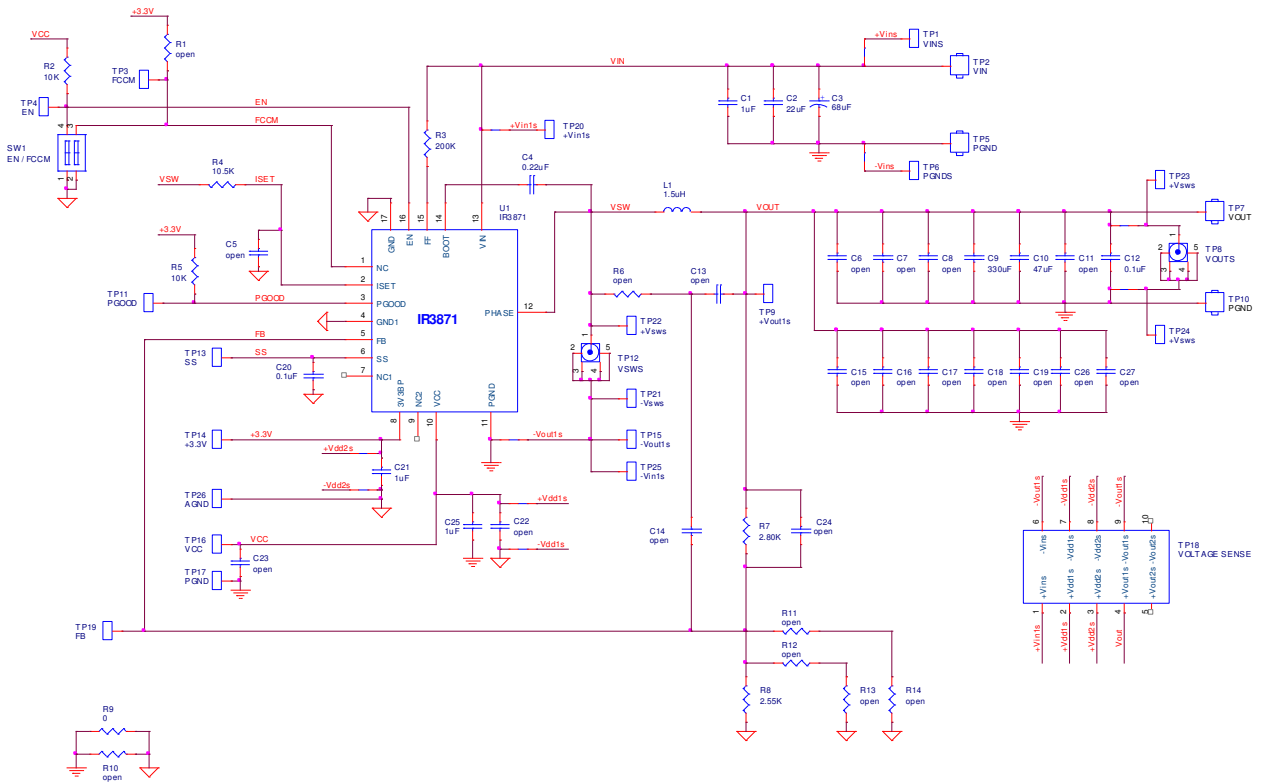

Figure 7. Typical Application Circuit for  $V_{OUT} = 1.05V$ ,  $F_s = 300kHz$
Tested with demoboard shown in Figure 7,  $V_{IN} = 12V$ ,  $V_{CC} = 5V$ ,  $V_{out} = 1.05V$ ,  $F_s = 300kHz$ ,  $T_A = 25^\circ C$ , no airflow, unless otherwise specified
- For applications with all ceramic output capacitors, the ESR is usually too small to meet the stability criteria. In these applications, external slope compensation is necessary to make the loop stable. The ramp injection circuit, composed of R6, C13, and C14, shown in Figure 7 is required. The inductor current ripple sensed by R6 and C13 is AC coupled to the FB pin through C14. C14 is usually chosen between 1 to 10nF, and C13 between 10 to 100nF. R6 should then be chosen such that  $L/DCR = C13 \cdot R6$ .